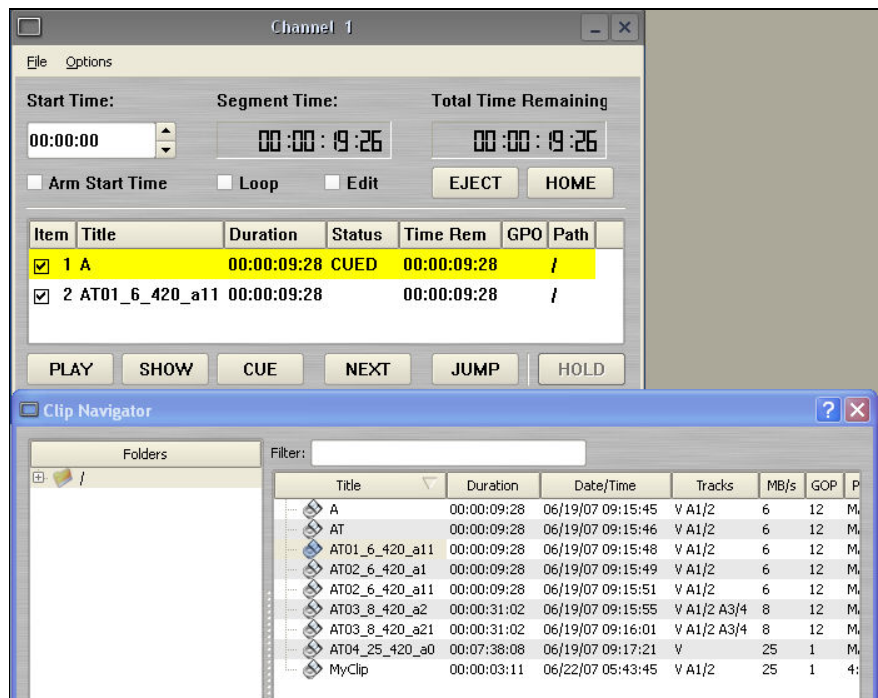

Figure 23 - Channel 1 Playlist with Clip Navigator
- Click **SHOW->CLIP LIST** from the main menu to open the Clip Navigator. Both windows are now visible per Figure 23.